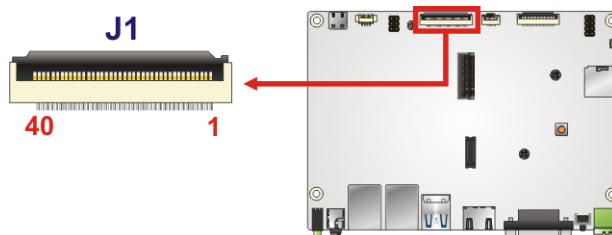

Figure 3-7: MIPI DSI Output Connector Location
- CN Location:** See **Figure 3-7**